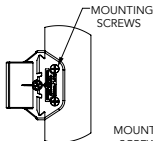

Figure 8
3. Secure the keeper assembly to the gate while in this position using two (included) flat head mounting screws as shown in Figure 8.